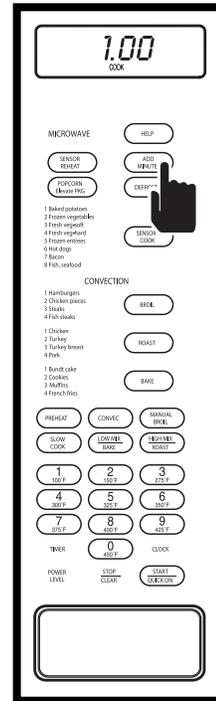

Figure 3-33.
1. If the microwave oven is off and the ADD MINUTE key is pressed, the microwave oven will automatically switch to Time Cook Mode at 100% power for one minute (See Figure 3-33). At the end of the cooking time, "END" will flash on the display and alarm will beep.